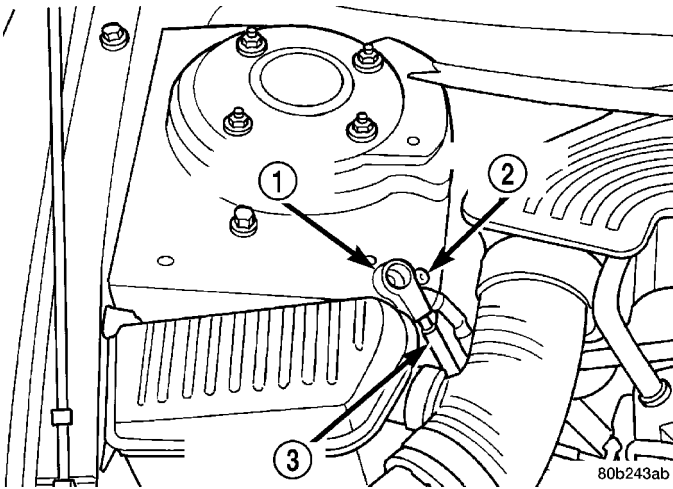

Fig. 14 Correctly Isolated Remote Ground Cable
(1) Remove the remote ground cable from the ground stud on the right strut tower.
(2) Correctly isolate remote ground cable when servicing vehicle by installing the ground cable insulator on the strut tower ground stud as shown in (Fig. 14) and installing the nut on the stud. **This will prevent accidental grounding of the remote ground cable.**